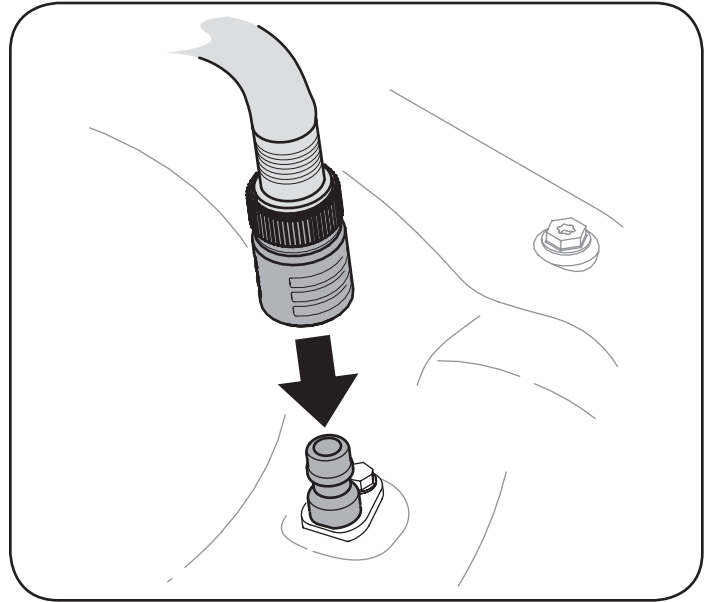

Figure 17
3. Attach garden hose with the deck wash nozzle to the water port on your deck's surface. See Figure 17.